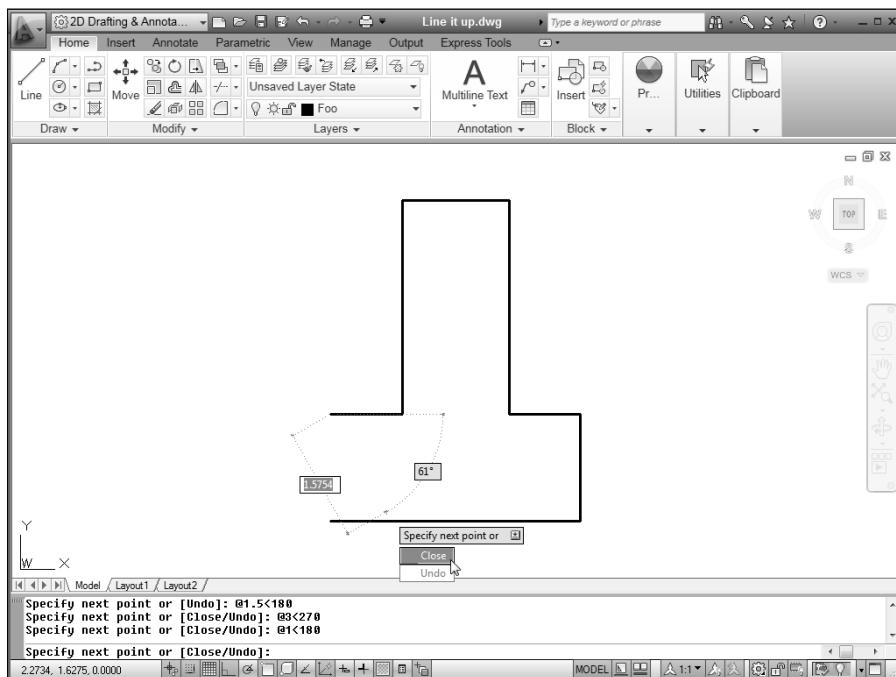

Figure 8-2:
- Type **C** and press Enter or press the down arrow on your keyboard and choose Close from the menu (as shown in Figure 8-2) to close the figure.